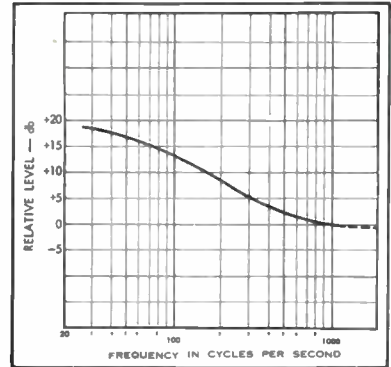
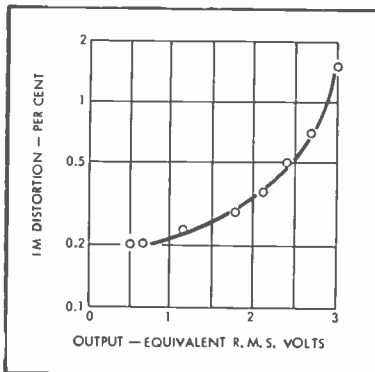

Fig. 2. Low frequency compensation for RIAA characteristic.
Fig. 3. Curve showing intermodulation distortion vs. output voltage.
r.m.s. when operated from a 12-volt d.c. power supply. The low-frequency response of the amplifier is shown in Fig. 2 and the distortion characteristic in Fig. 3. There is little change in the characteristics of the unit until a temperature of over 120° F. is reached at which time the dynamic range of the unit begins to decrease. By keeping the heat producing units of the stereo installation, such as the power output amplifiers, away from the phono turntable the temperature should stay well below the 120° point.